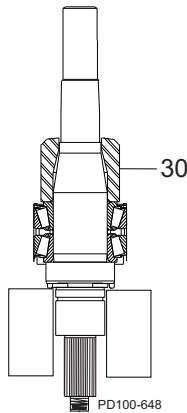

Figure 205 - Install Bearing Spacer
9. Install the bearing spacer (Figure 205, item 30).